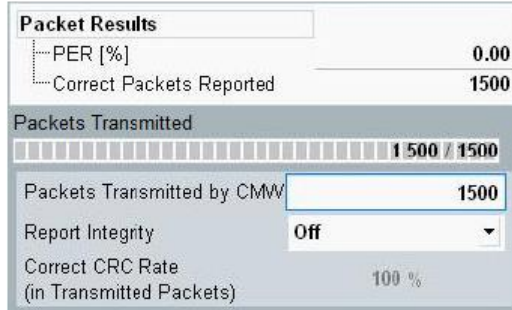

Fig 6. Rx PER test result
- The Rx sensitivity test is the PER measurement for the LE. There are 1500 packages sent from the CWM and received by the EUT. The test result is shown in Fig 6.